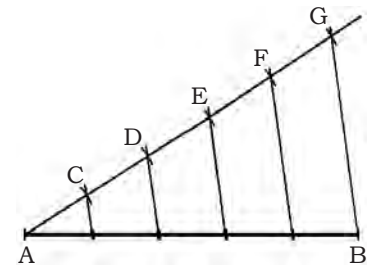

Fig. 1.13: Dividing a given line in equal parts
5. Using set squares draw parallel lines to GB from all the points (points F-C) as shown in Fig. 1.13.